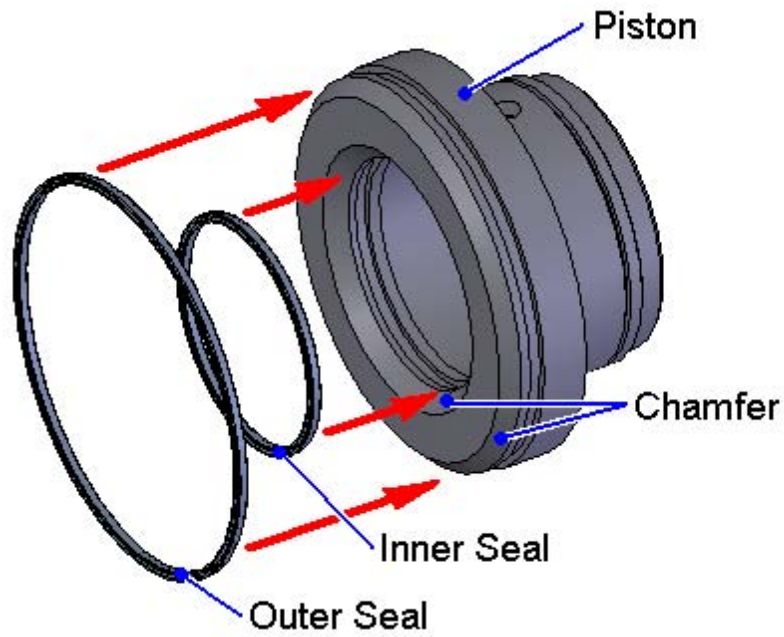
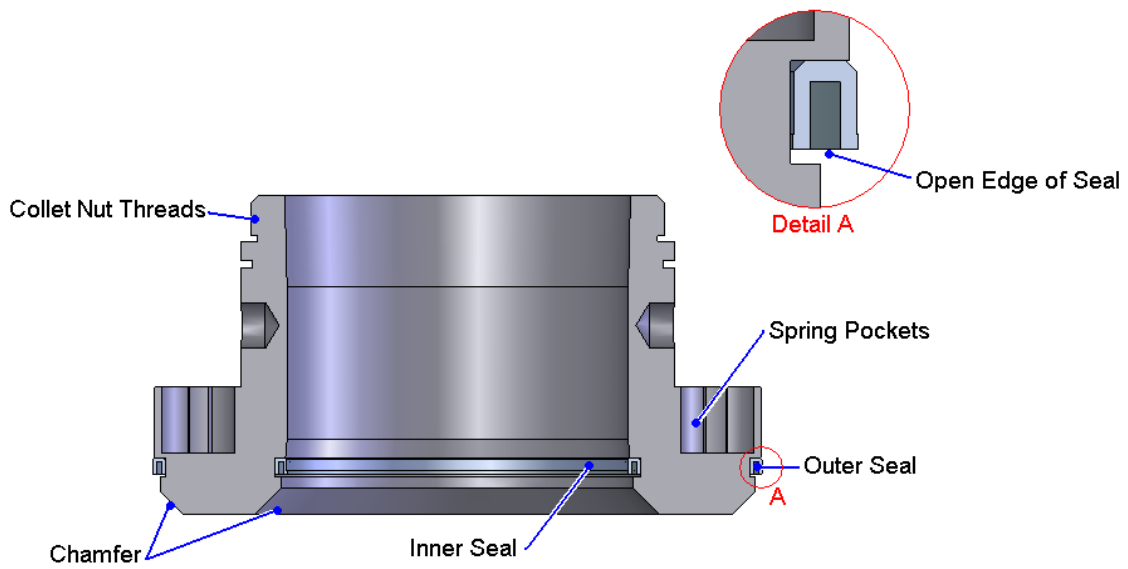

Figure 4-2: Piston Seal Installation Procedure
Figure 4-3: Cross-section View of Piston Showing Seal Orientation
14. Lubricate the new seals with o-ring lubricant as specified in Section 4.2. Press the new seals over the chamfer and into their respective grooves. See Figure 4-2 for installation procedure. Be sure to align the seals such that the open end (when looking at a cross section) is facing away from the collet, as shown in Figure 4-3. The direction of the seal is extremely important in sealing the piston. Make sure that the seals seat into their mounting grooves by running a fingernail around the edge. If the seal is tilted or twisted slightly its function will be severely compromised.